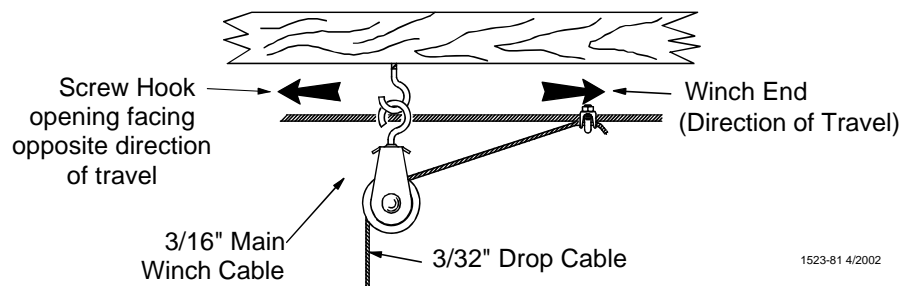
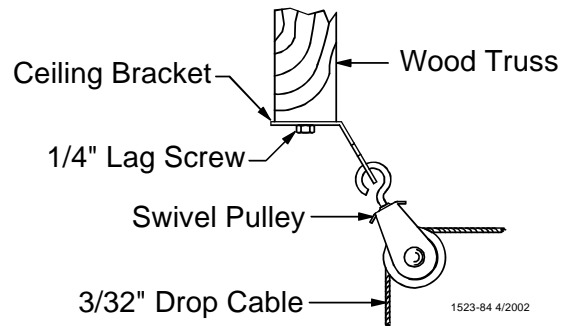

Figure 13.Screw Hook Installation
Figure 17. Pulley Installation
The openings of the screw hooks must be pointed away from the direction of travel when the Power Winch raises the feeder line. See **Figure 13**.
6. After securing the Ceiling Hook to the truss, slide the hook of a Swivel Pulley into the slot, as shown in **Figure 17**.
2. Thread the end of the 3/32" or 1/8" cable through the pulley toward the winch. Clamp this end to the 3/16" winch cable about 6" [150 mm] from the last pulley, using a 3/16" cable clamp. See applicable figure; **Figure 13** or **Figure 17**.